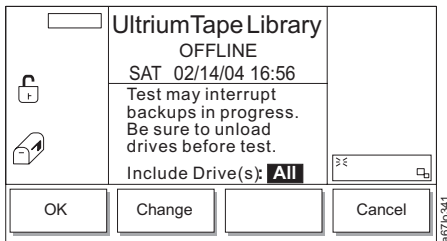

Figure 14-6. Verify Test Dialog
5. Press the button below the **Verify Test** softkey. The Verify Test Dialog is displayed (see Figure 14-6).